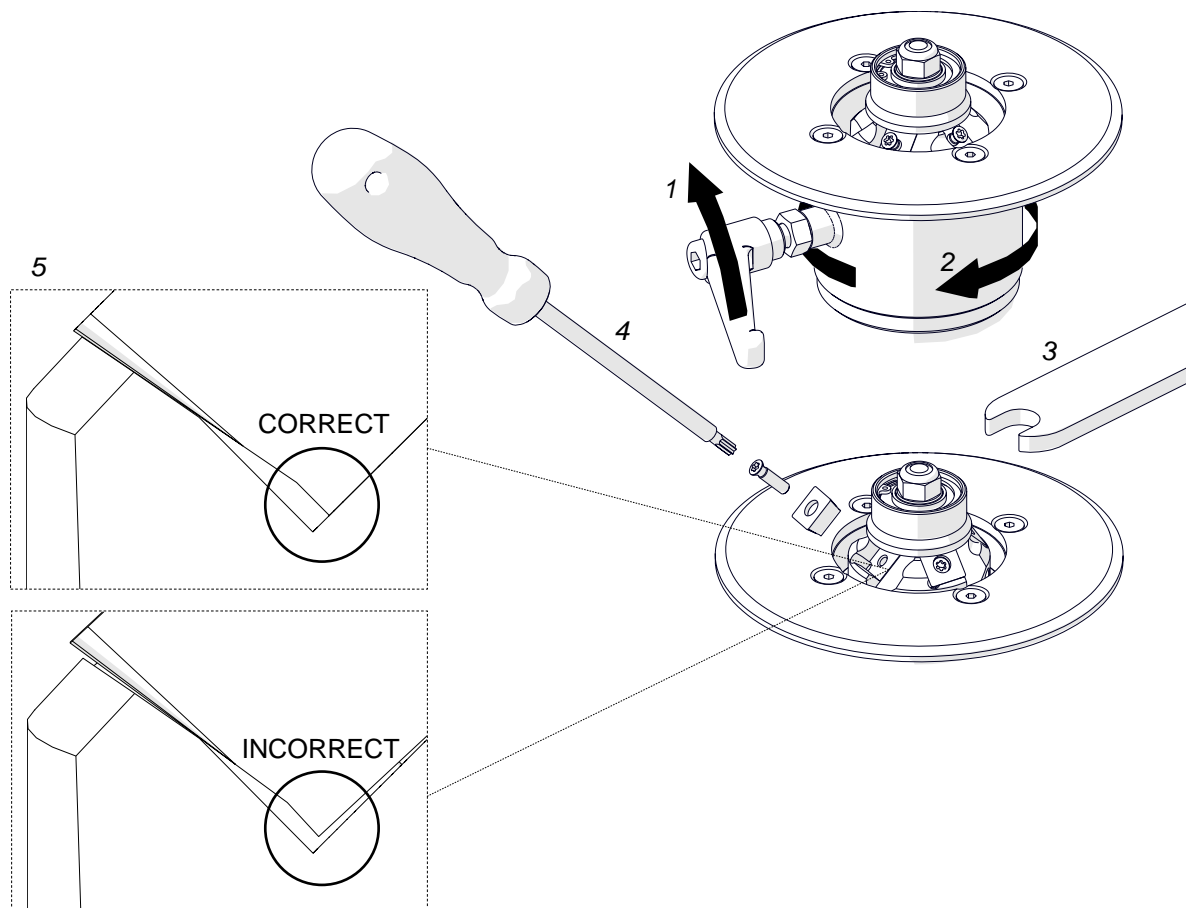

Fig. 2. Installing the cutting inserts
Unplug the machine from the power source, and place the machine upside down. Unlock the lever (1, Fig. 2), and then rotate the sleeve (2) to lower it as far as possible and access the milling head. Use the special wrench 3 to loosen the roller, and then use the screwdriver 4 to unscrew the inserts. Next, clean the sockets, push the inserts into the sockets, and then retighten the inserts and roller. The entire bottom of the insert must be in full contact with the socket (5).